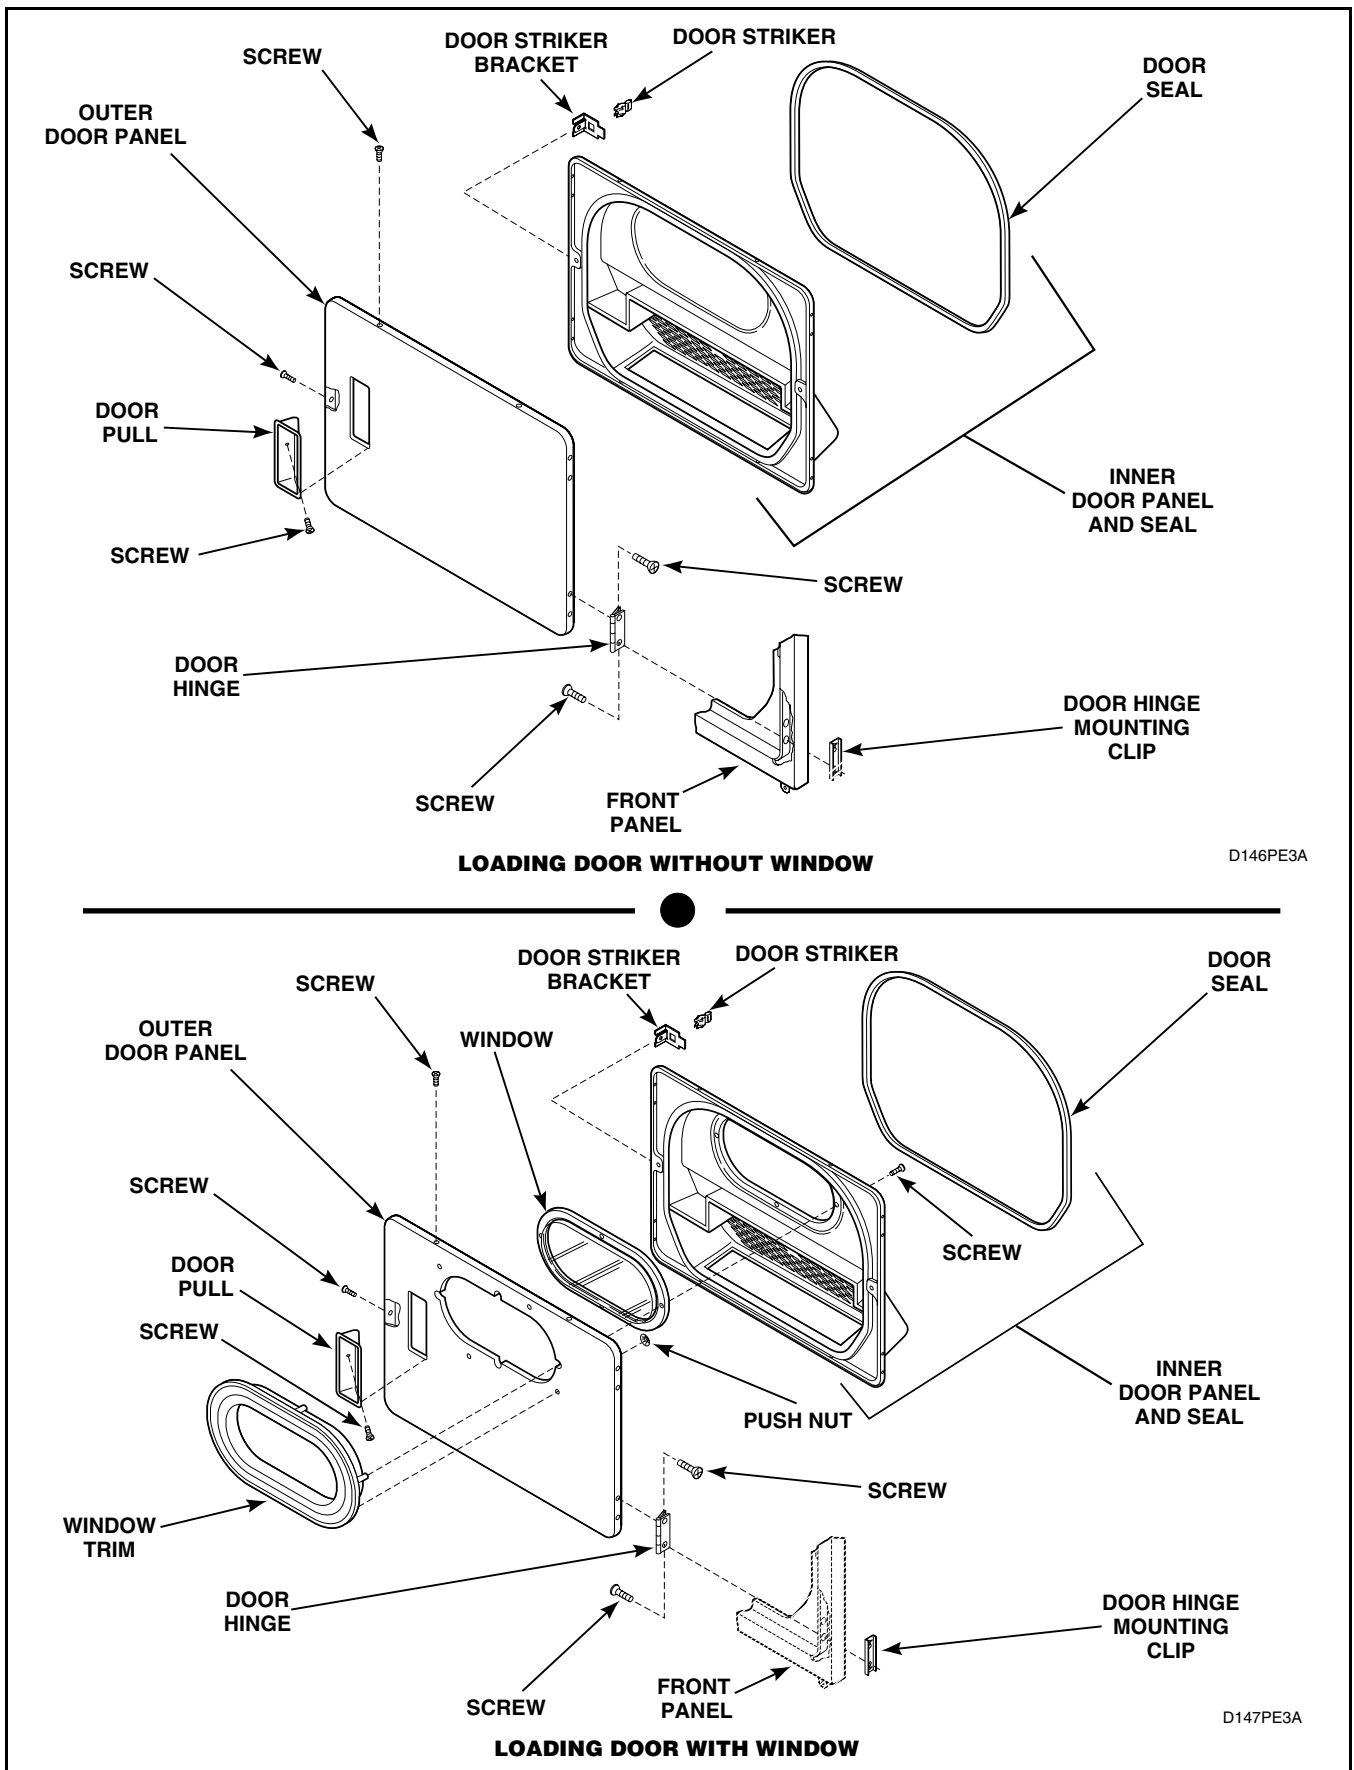

Figure 28
- Remove screw from door pull and the remaining screws around the door perimeter and separate panels. Refer to *Figure 28*.
- Remove screw holding door strike and bracket to loading door and remove striker and bracket. Refer to *Figure 28*.